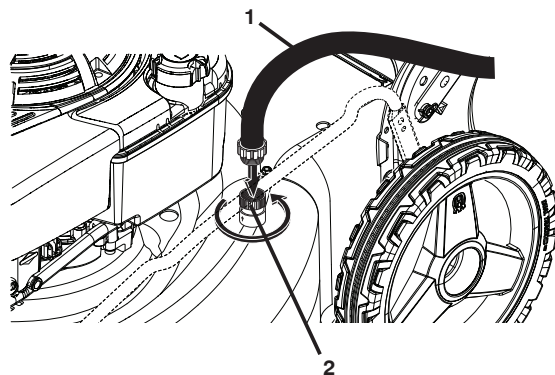

Figure 26
4. Connect a garden hose to the fitting where shown (Figure 26).